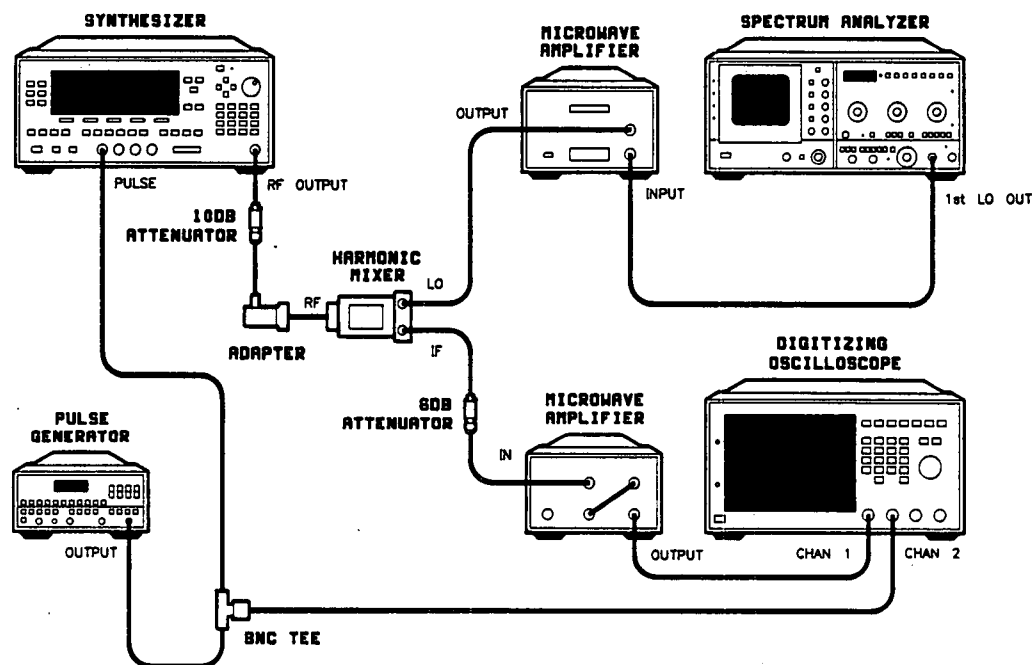

Figure 2-18. Pulse Performance Test Setup > 20 GHz
23. Connect the equipment as shown in figure 2-18 using the HP 11970K Mixer (18 to 26.5 GHz).